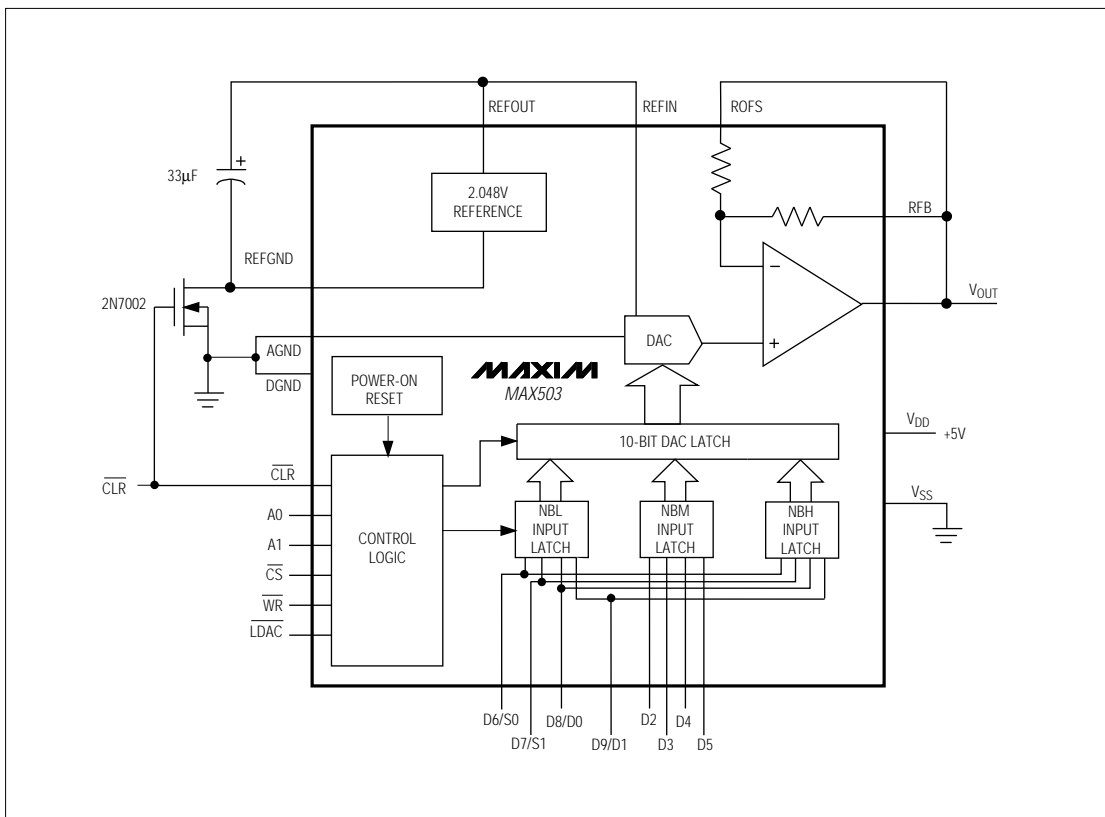

Figure 3. Low-Current Shutdown Mode
An additional 110µA of supply current can be saved when the internal reference is not used by connecting REFVDD to VDD. A low on-resistance N-channel FET, such as the 2N7002, can be used to turn off the internal reference to create a shutdown mode with minimum current drain (Figure 3). When CLR is high, the transistor pulls REFVDD to AGND and the reference and DAC operate normally. When CLR goes low, REFVDD is pulled up to VDD and the reference is shut down. At the same time, CLR resets the DAC register to all 0s, and the op-amp output goes to 0V for unity-gain and G = 2 modes. This reduces the total single-supply operating current from 250µA (400µA max) to typically 40µA in shutdown mode.
In order to provide hardware and software compatibility with the 12-bit MAX530, the MAX503 employs a 12-bit digital interface. As shown in Figure 3, there is actually a 12-bit input latch, and therefore 12 bits of data should be written. The two least significant bits (S1 and S0) are sub-LSB, and must always be 0s. Designed to interface with 4-bit, 8-bit, and 16-bit microprocessors ( $\mu\text{Ps}$ ), the MAX503 uses 8 data pins and double-buffered logic inputs to load data as  $4 + 4 + 4$  or  $8 + 4$ . The 12-bit DAC latch is updated simultaneously through the control signal LDAC. Signals A0, A1, WR, and CS select which input latches to update. The 12-bit data is broken down into nibbles (NB): NBL is the enable signal for the lowest 4 bits (S0, S1, D0, D1), NBM is the enable for the middle 4 bits, and NBH is the enable for the highest and most significant 4 bits. Table 2 lists the address decoding scheme.